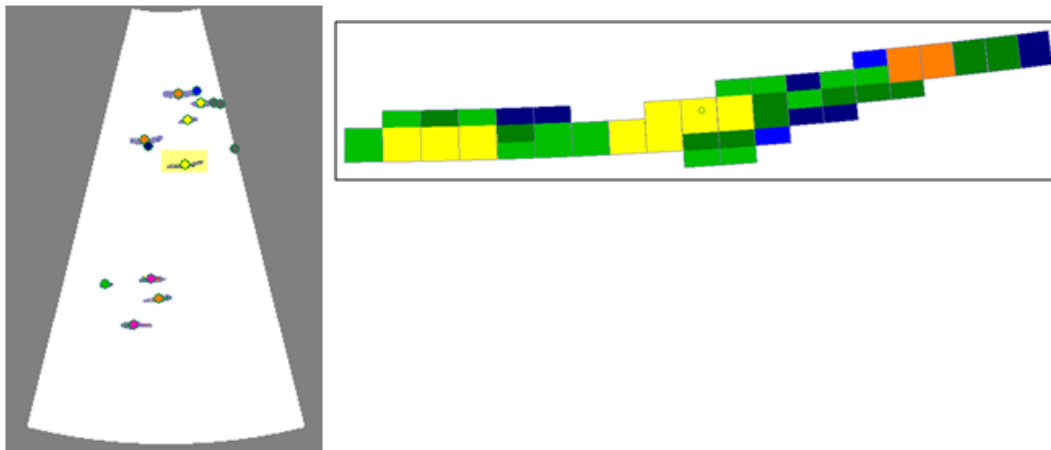

Figure 7. Close up of the highlighted multibeam target in ping 34.
16. On the Multibeam target detection echogram zoom in on a target (refer to Topic 2). The color scheme for the input data under targets is controlled by the input operand Beam median filter 3x3. To match the inset for Figure 7 you may need to adjust the **Echogram color** settings of the **Beam median filter** variable. Consult the settings from Topic 4 for specific values. Adjust F11/F12 on the Beam median filter 3x3 echogram, while viewing the target.